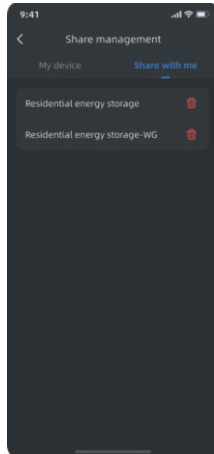

Figure 3
- 3 )Figure 3: Display the device shared with you, click "Delete" to pop up a confirmation of pop-up window to cancel the sharing.